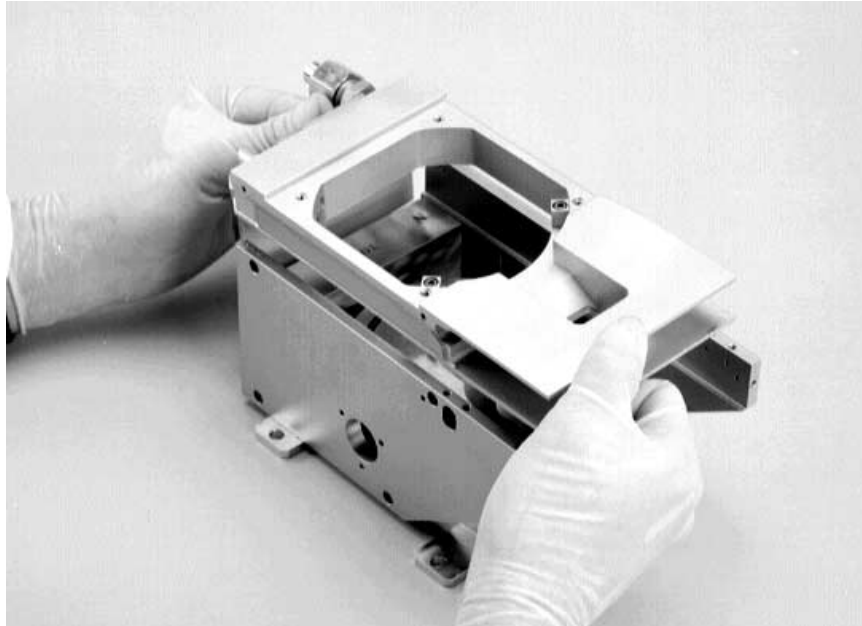

Figure 6-13. Removing the coil housing
Step 16: You should now be able to lift the coil housing free of the pole pieces, as shown in Figure 6-13. If not, further loosen the bottom row of screws securing one of the pole pieces to the source's base plate.